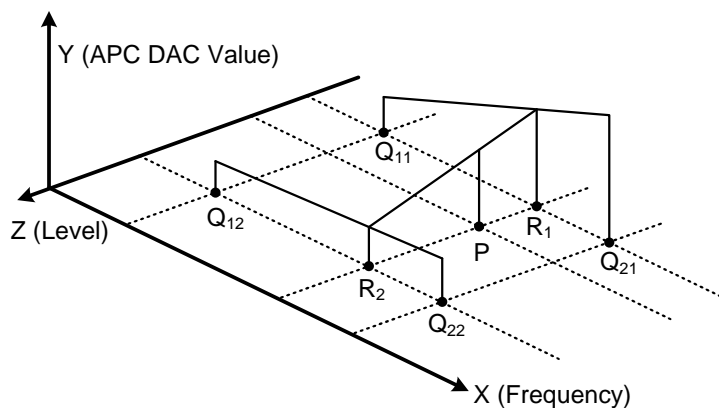

Figure 19: Bilinear interpolation
The calculation of poutbits is based on the calibration values (DAC values) residing on 2-dimensional rectilinear grid (frequency and level). To find DAC value (i.e. poutbits value) for the arbitrary frequency-level point, bilinear interpolation can be used. Calibration data is retrieved from the flash memory – table CTYPE=8, for more details see section 3.5. Suppose that we have four calibration points (Q_{11} , Q_{12} , Q_{21} , Q_{22}) around the point which DAC value we need to find (P), see fig 19. X axis means frequency in MHz, Z axis – output level in dBm, Y – DAC value. So we have $Q_{11} = (x_1, z_1)$, $Q_{12} = (x_1, z_2)$, $Q_{21} = (x_2, z_1)$, $Q_{22} = (x_2, z_2)$, $P = (x, z)$, $Y(Q_{11})$, $Y(Q_{12})$, $Y(Q_{21})$, $Y(Q_{22})$ – are calibration values, and we need to find $Y(P)$.